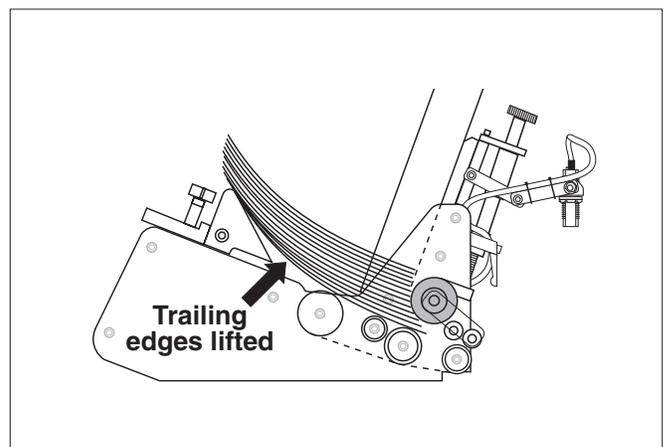

Figure 31. Trailing Edges Lifted by Back Wedge
- At the back wedge, notice how it helps lift the trailing edges of the material off the table top and feed belts. Also notice how the lifting helps to push the preshingled edges against the curvature of the gate assembly (Figure 31).